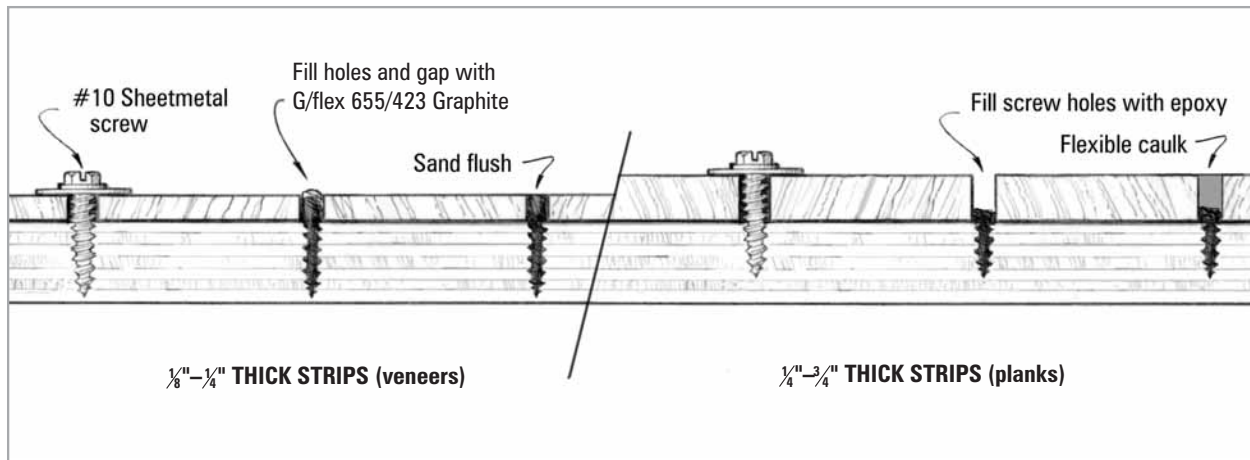

Figure 5-24 Sheet metal screws with large washers will clamp the strips in position until the 655/graphite mixture cures thoroughly.
6. Clamp the plank in place with #10 sheet metal screws and large washers. Place the screws and washers between the strips, 8" apart. Each row of screws will clamp the edges of two adjoining planks and act as spacers (*Figure 5-24 left*). Coat the screws and washers with a mold release or place a small sheet of plastic under the washers to prevent bonding. Washers may also be cut from stiff plastic, thin wood lathe or similar stock with holes drilled for the screws. Tighten the screws down completely after pushing both adjoining strips tight against the screws. The epoxy mixture should squeeze up between the strips. Any voids between the planks should be filled at this time with the 655/graphite mixture.
Note: If planks thicker than $\frac{1}{4}$ " are used, do not fill between the planks with thickened epoxy. Instead, remove squeezed-out epoxy between planks and allow to cure. Remove the screws and washers and sand the top surface of the planks fair. Fill the joints with Thiokol or polysulfide caulk (*Figure 5-24 right*).